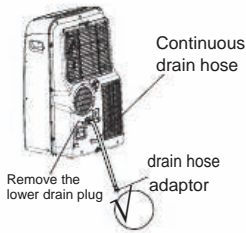

Fig.20b
- During heating pump mode, remove the lower drain plug from the back of the unit, install the drain connector(5/8 universal female mender) with 3/4 hose(locally purchased). For the models without drain connector, just attach the drain hose to the hole. Place the open end of the hose adaptor directly over the drain area in your basement floor. Please refer to Fig.20b.